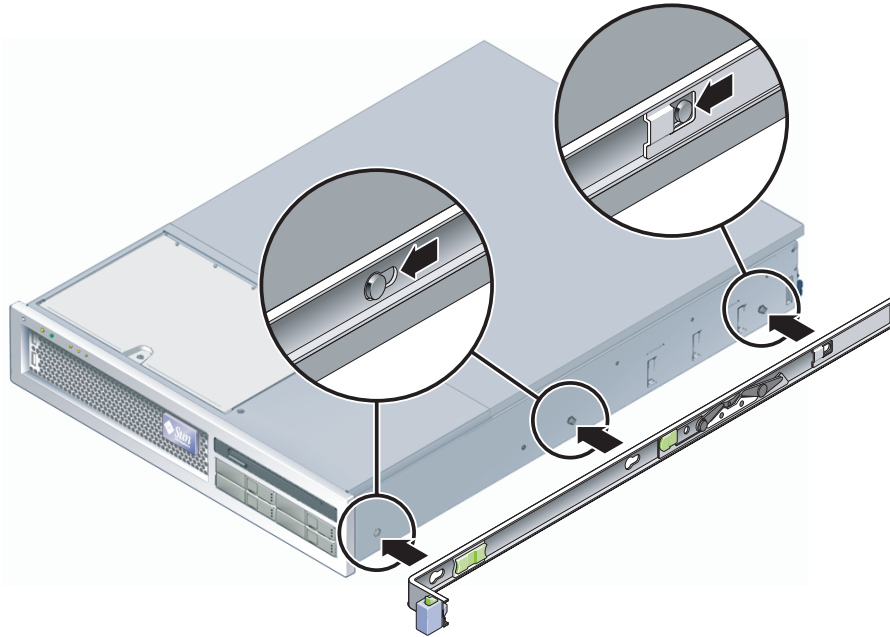

FIGURE 3-26 Attaching a Mounting Bracket to the Chassis
- a. Position the mounting bracket against the server chassis (FIGURE 3-26) so that the slide rail lock is at the front and the three keyed openings on the mounting bracket are aligned with the three locating pins on the side of the chassis.
- c. Verify that all three locating pins are trapped in the keyed openings and that the rear locating pin has engaged the mounting bracket lock, as shown in the right side of FIGURE 3-26.